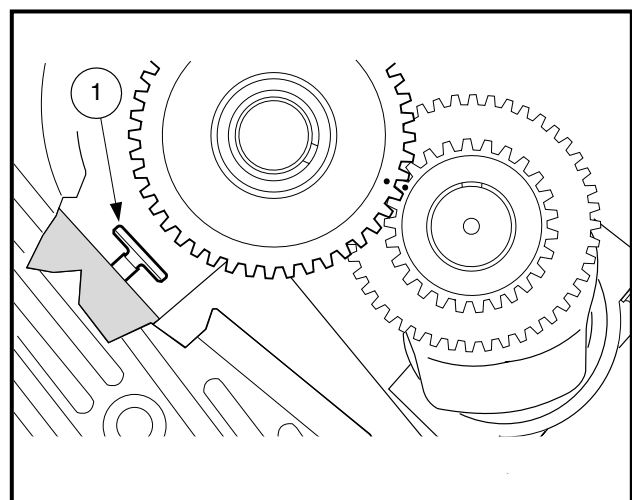

Figure 2-42 Timing Mark Alignment
1. Align timing marks before removing camshaft (**Figure 2-42, Page 2-21**).
2. Turn the engine upside down to keep tappets (1) from catching the cam lobes (**Figure 2-42, Page 2-21**).